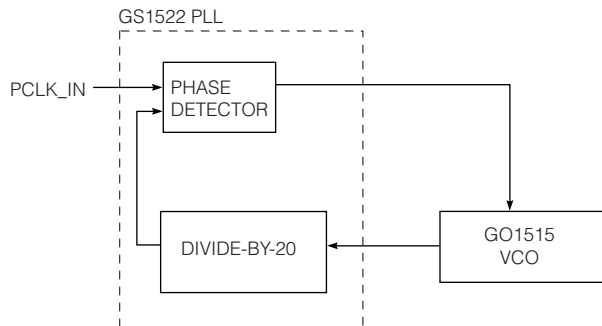

Fig. 16 Phase Lock Loop Frequency Synthesis
The GS1522 requires the HDTV parallel clock (74.25 or 74.25/1.001MHz) to synthesize a serial clock which is 20 times the parallel clock frequency (1.485MHz) using a phase locked loop (PLL). This serial clock is then used to strobe the output serial data. Figure 16 illustrates this operation. The VCO is normally free-running at a frequency close to the serial data rate. A divide-by-20 circuit converts the free running serial clock frequency to approximately that of the parallel clock. Within the phase detector, the divided-by-20 serial clock is then compared to the reference parallel clock from the PCLK_IN pin (2). Based on the leading or lagging alignment of the divided clock to the input reference clock, the serial data output is synchronized to the incoming parallel clock.